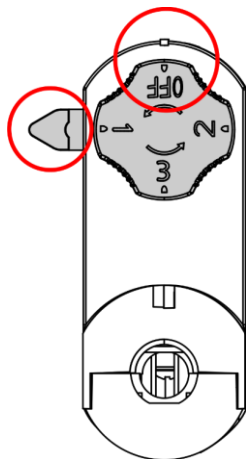

Fig. 04
- 02) Make sure that the **circuit selector (03)** is in OFF position and the **track lock (02)** is in unlocked position, as shown in Fig. 04.